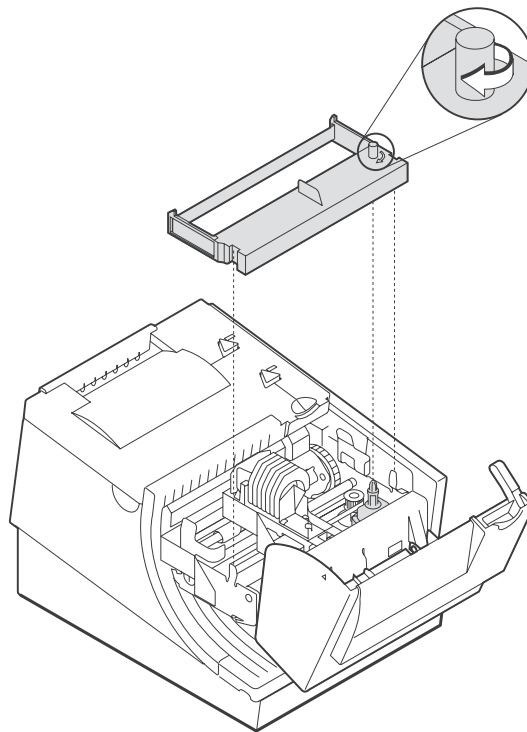
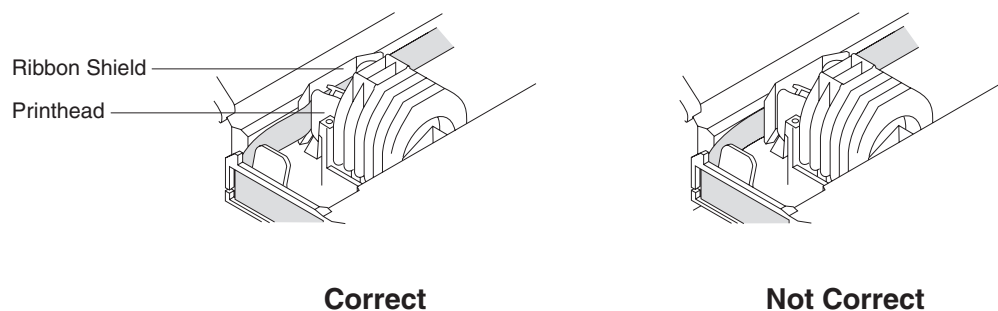

Figure 24. Ribbon Cartridge Loading
Figure 25. Ribbon Path around the Printhead
3. Maintain ribbon tension by turning the ribbon cartridge knob as shown in Figure 24 on page 51. Lower the cartridge into position until the notches on its sides snap into place on the printer guides. Once the cartridge is in place, turn the knob until the ribbon slides into place between the printhead and the ribbon shield. See Figure 25 for correct ribbon positioning.